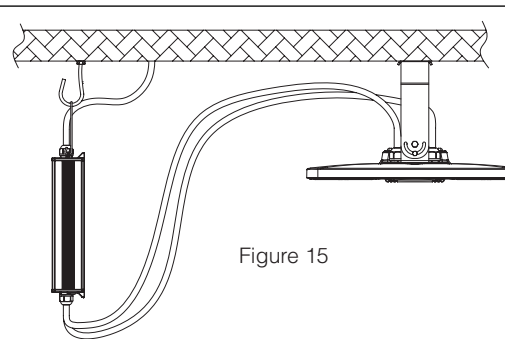

Figure 15
Step3. If luminaire use bracket to mounting, like below, step 1, mounting EM to ceiling by hook, and, step 2, mounting the luminaire close to EM by mounting bracket, notice, don't let the output cord between EM and luminaire exceed 50 cm (Figure 15)